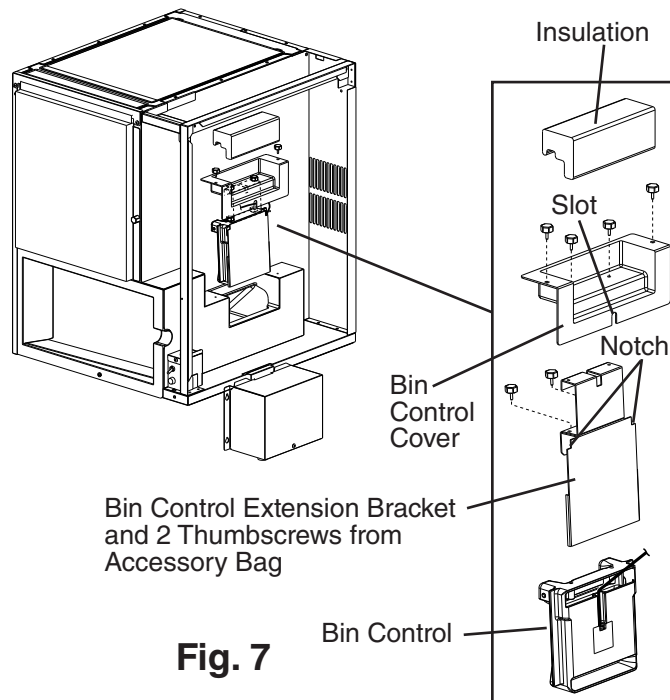

Fig. 7
- 6) Remove the bin control extension bracket and 2 thumbscrews from the accessory bag. Route the bin control cable around one of the notches on either side of the extension bracket, then secure the bin control to the bin control extension bracket using the 2 thumbscrews. See Fig. 7.